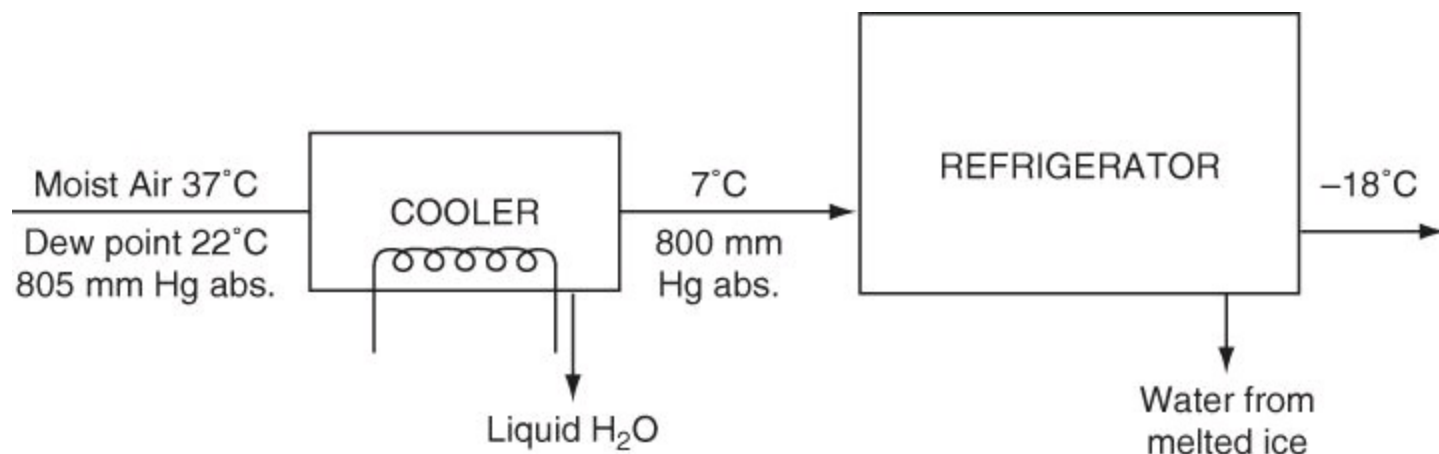

Figure P8.4.18
*****8.4.18.** To prevent excessive ice formation on the cooling coils in a refrigerator room, moist air is partially dehydrated and cooled before passing it through the room (see Figure P8.4.18). The moist air from the cooler is passed into the refrigerator room at the rate of 20,000 ft³/24 hr measured at the entrance temperature and pressure. At the end of 30 days the refrigerator room must be allowed to warm in order to remove the ice from the coils. How many pounds of water are removed from the refrigerator room when the ice on the coils in it melts?